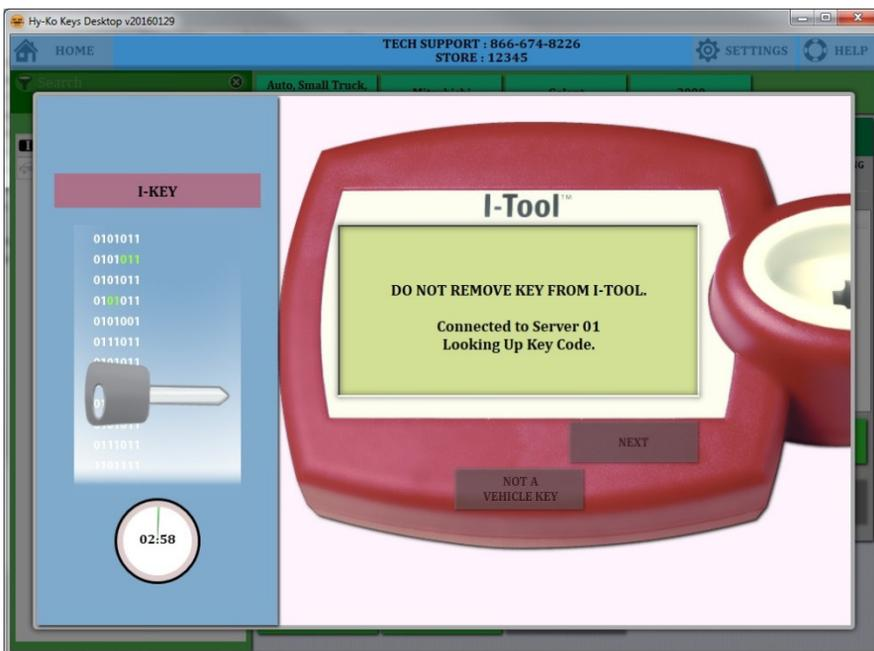

fig. 74
- The I-Tool will begin the process of looking up the key code (see fig. 74). Do not touch the key at this time.